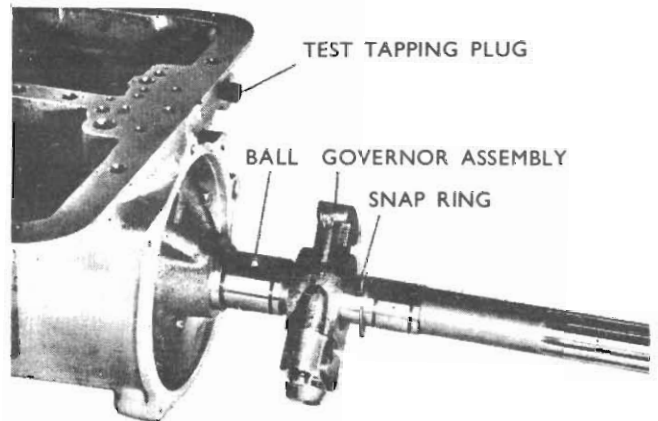

Fig. 19 - Governor valve assembly on output shaft
(1) Apply parking brakes fully, and position wheel chocks.
(2) Start engine and adjust idle speed to specifications at normal operating temperature.
(3) Stop engine (for safety reasons). Adjust outer cable to provide that the cable crimped sleeve (on original cable only) just contacts the abutment
(4) Connect tachometer to read engine R.P.M.
(5) Install a hydraulic gauge, Tool No. E21C65A to read line pressure. The gauge tapping point is located at the rear of the transmission housing to the left of the transmission centreline just above the transmission oil pan mounting flange. (*Refer Fig. 19* for location).
(6) Start the engine and select 'D' drive range (brakes fully applied).
(7) Note the engine R.P.M. and the line pressure with the transmission at operating temperature. The line pressure should be 60-76 P.S.I.
(8) Use the accelerator pedal to increase the engine speed 500 R.P.M. and note the increase in transmission pressure. The increase in pressure must be a *minimum* of 10 P.S.I. It may be necessary to lightly shake the transmission throttle cable outer casing during the operation to overcome cable drag.
(9) To increase the pressure rise, turn the cable adjusting nuts to widen the gap between the end of the outer cable casing and the crimp sleeve on the inner cable. To decrease the pressure rise, close the gap between the end of the outer cable casing and the crimp sleeve. REMOVE THE CABLE CRIMP SLEEVE IF CORRECT ADJUSTMENT CANNOT BE ACHIEVED. After setting, fit a new crimp sleeve, Part No. 3649292.
(1) Remove extension housing and speedometer drive gear (as previously described in paragraphs 11 and 12).
(2) Using circlip pliers carefully pry snap ring from shaft rear of governor (Fig. 19). Slide valve assembly from shaft taking care not to lose the 1/4" drive ball.